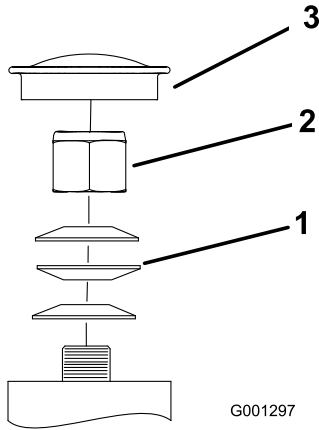

Figure 64
3. Remove the dust cap from caster and tighten lock nut (Figure 64).
- Tighten the locknut until the spring washers are flat and then back off a 1/4 turn to properly set the pre-load on the bearings (Figure 64).
Important: Make sure the spring washers are installed correctly as shown in Figure 64.
- Install the dust cap (Figure 64).